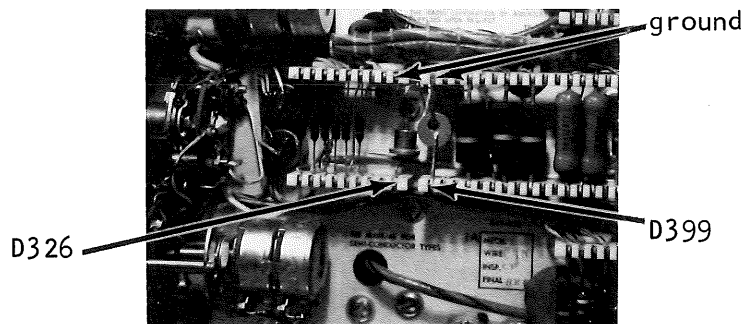

Figure 1-41
1. Connect the DC meter across D326 (cathode to ground). Check for  $+20v \pm 2v$ . See Figure 1-41.